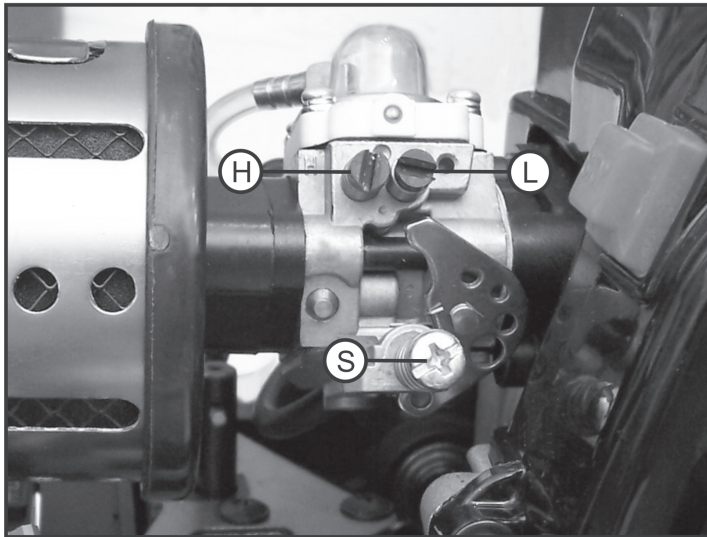

Figure 18
- The brake linkage (3) must not affect the brake lever (4) and therefore the brake yet.
- If the brake function is operated at the transmitter, the rudder horn moves towards the arrows. The throttle linkages are pulled even more strongly towards the mechanical stop at the carburettor (also see figure 18) by the installed spring. The motor speed must not decrease. If this is the case, the front adjustment ring must be adjusted (push towards the carburettor).